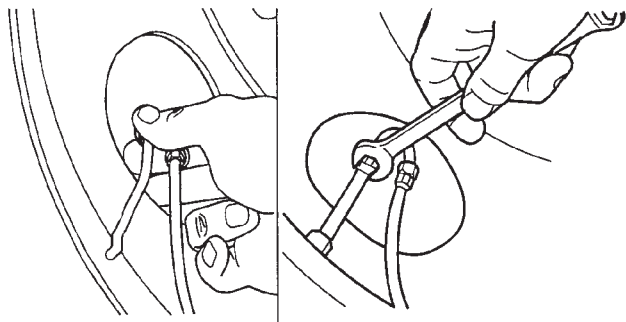

Figure 54: Reattaching tire hoses to tire valve stem
6. **Attach** tire hose(s) to tire valve stem(s) and tighten finger tight (Figure 54).
7. Using a 7/16 inch wrench, **tighten tire hose / valve stem connection** an additional one-half turn (Figure 54). **Do not overtighten this connection.** Ensure hose connections are tight enough that, when moving the hose back and forth, it does not cause the connection to move.